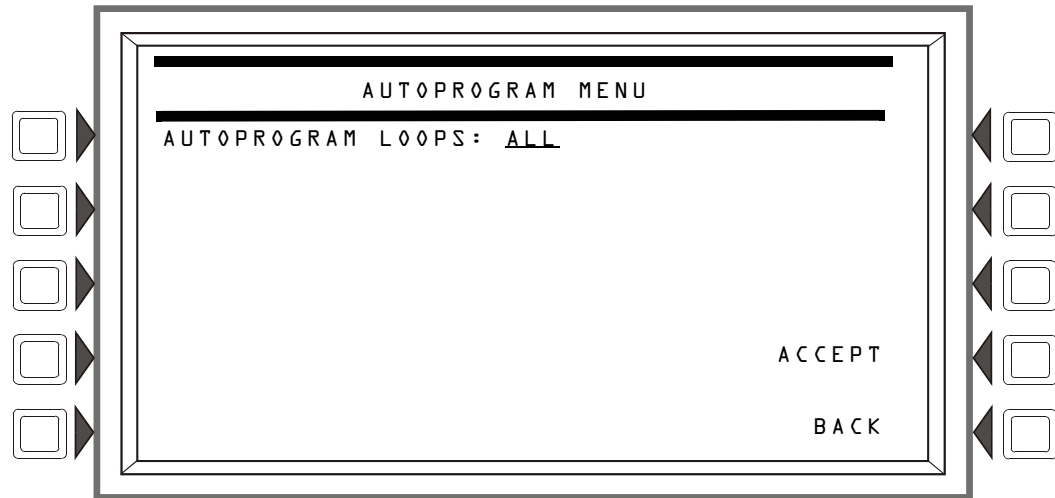

Figure 3.62 Autoprogram Menu Screen
3. Press the **AUTOPROGRAM LOOPS** soft key and enter the desired SLCs (loops **1+2** in this example) in the Autoprogram Menu screen (Figure 3.62)